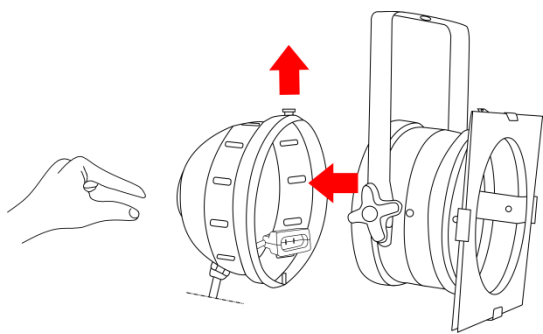

Fig. 03
- 02) Pull the spring lever in the direction of the arrow and remove the rear cover of the lamp (Fig. 03).